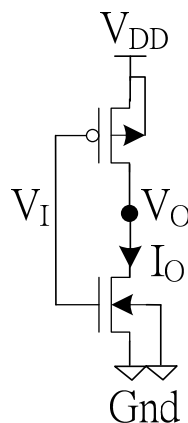
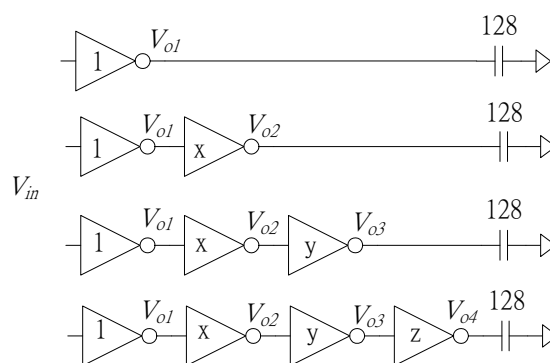

Fig. 1
Fig.2
1. Please design an unit inverter (shown as figure 1) with a  $V_{dd}=1.8V$ ,  $I_d=10nA$  when  $V_i$  and  $V_o$  are 0.9V. Then, find the capacitance of the unit inverter using the following command in your Hspice file. Finally, based on the unit inverter, you have to design the different inverter buffer chain (shown as figure 2) with size of x,y,z to drive a load capacitance of 16 times of the capacitance of the designed unit inverter, respectively.